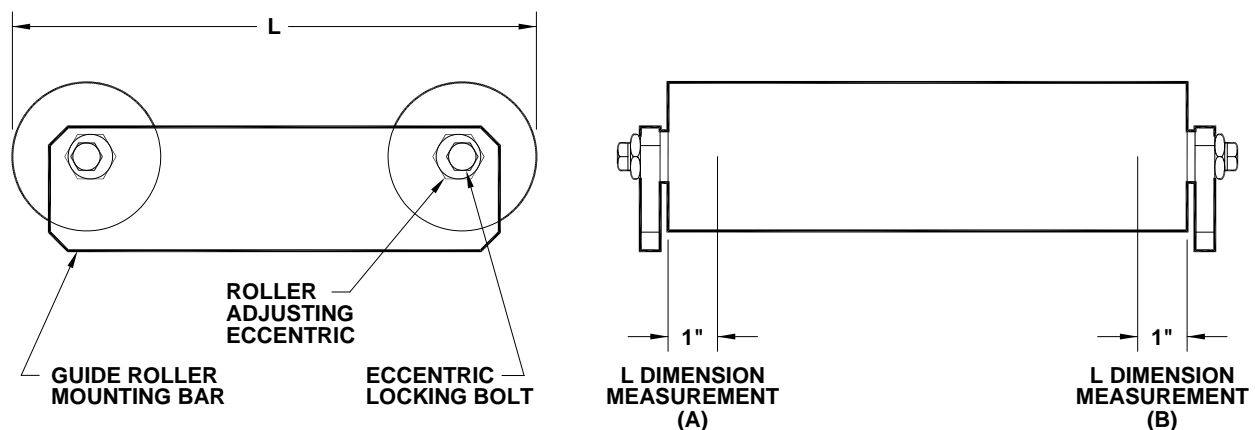

Figure 1.
In order for the guide to operate efficiently and prevent the formation of wrinkles, the guide rollers must be parallel to each other and parallel to the entering idler roller and the exiting idler roller. The alignment of the guide rollers is accomplished with adjusting the roller eccentrics. See Figure 1. Accuracy requirements of this alignment are determined by the type of web material being run through the process line. Factory alignment is within 0.010 total indicator reading. To adjust guide roller alignment, proceed as follows:
3. Loosen eccentric locking bolts and rotate eccentrics out to the position that places the greatest distance between the two guide rollers ("L" Dimension). See Figure 1.
and (B), Figure 1). When the greatest distance between the guide rollers is obtained, the "L" Dimension measurement (A) and "L" Dimension measurement (B) will be the same.